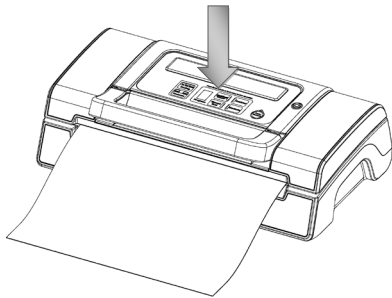

Fig. 7
7. Press "Manual Seal" button to start sealing the bags. (Fig.7)